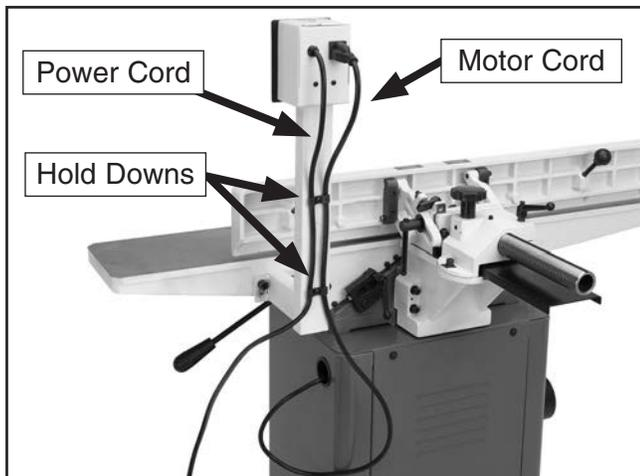

Figure 27. Cord locations.
2. Plug the motor cord into the back of the switch box, then secure the loose cords with the hold downs shown in **Figure 27**.